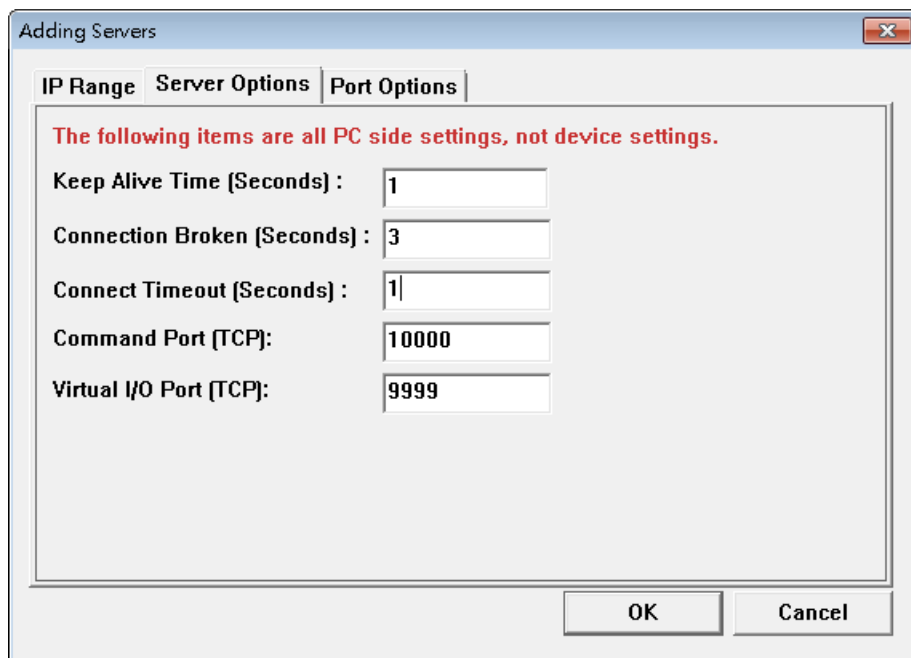

Figure 7.10.16
H. Then click on the Server Options at the top of the window and follow the screen setting parameters as shown in Figure 7.10.16. After setting, select "OK".